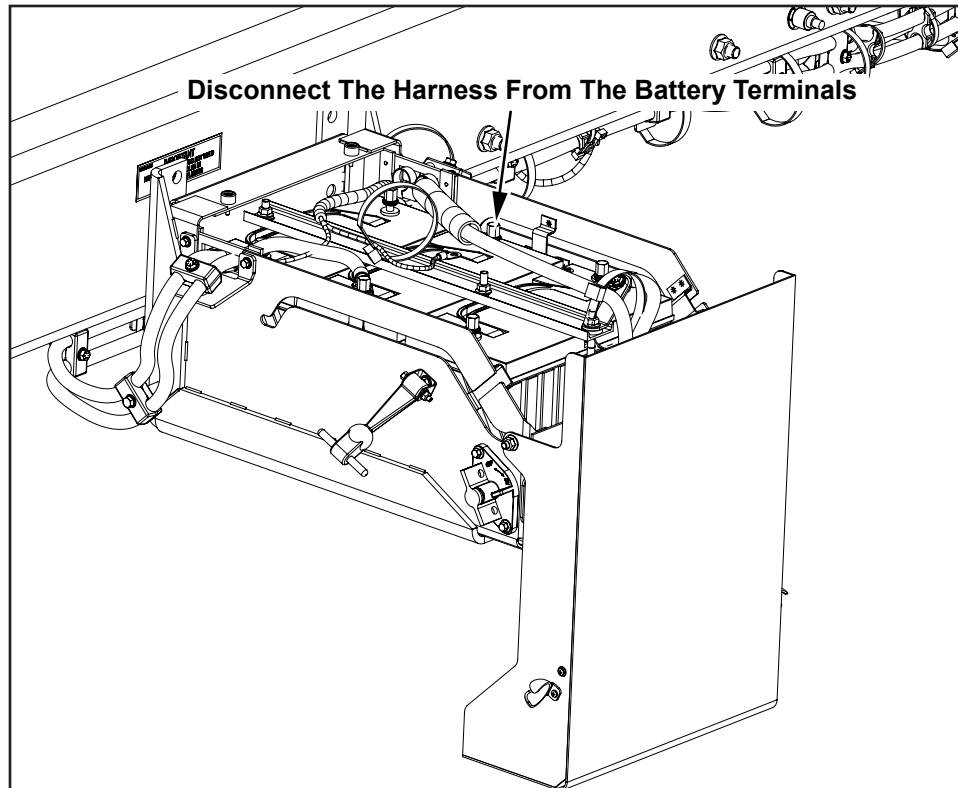

Figure 2
3. Inside the battery box, disconnect the rear chassis harness from the battery terminals (see Figure 2).